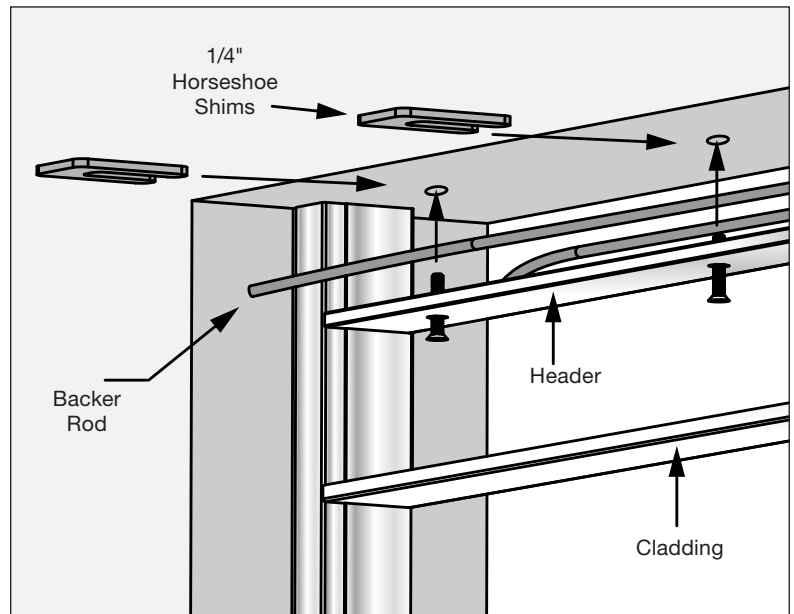

Fig. 12
4. Use 1/4" shims between header and wall to plumb frame and maintain a 1/4" gap. Shims should be placed so that they straddle each fastener to avoid dips in the header from over tightening. FIGURE 12.